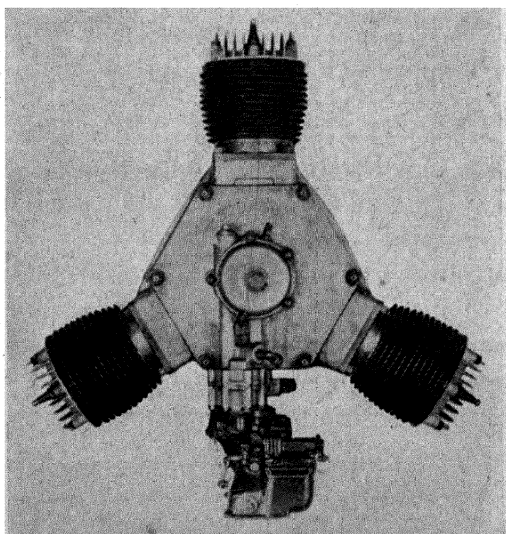

Fig. 273.—Szekely 3-cylinder air-cooled radial aircraft engine. (Courtesy of Aviation.)
2. The following is part of the specifications on the Szekely aircraft engine (see Fig. 273). Complete all missing data.